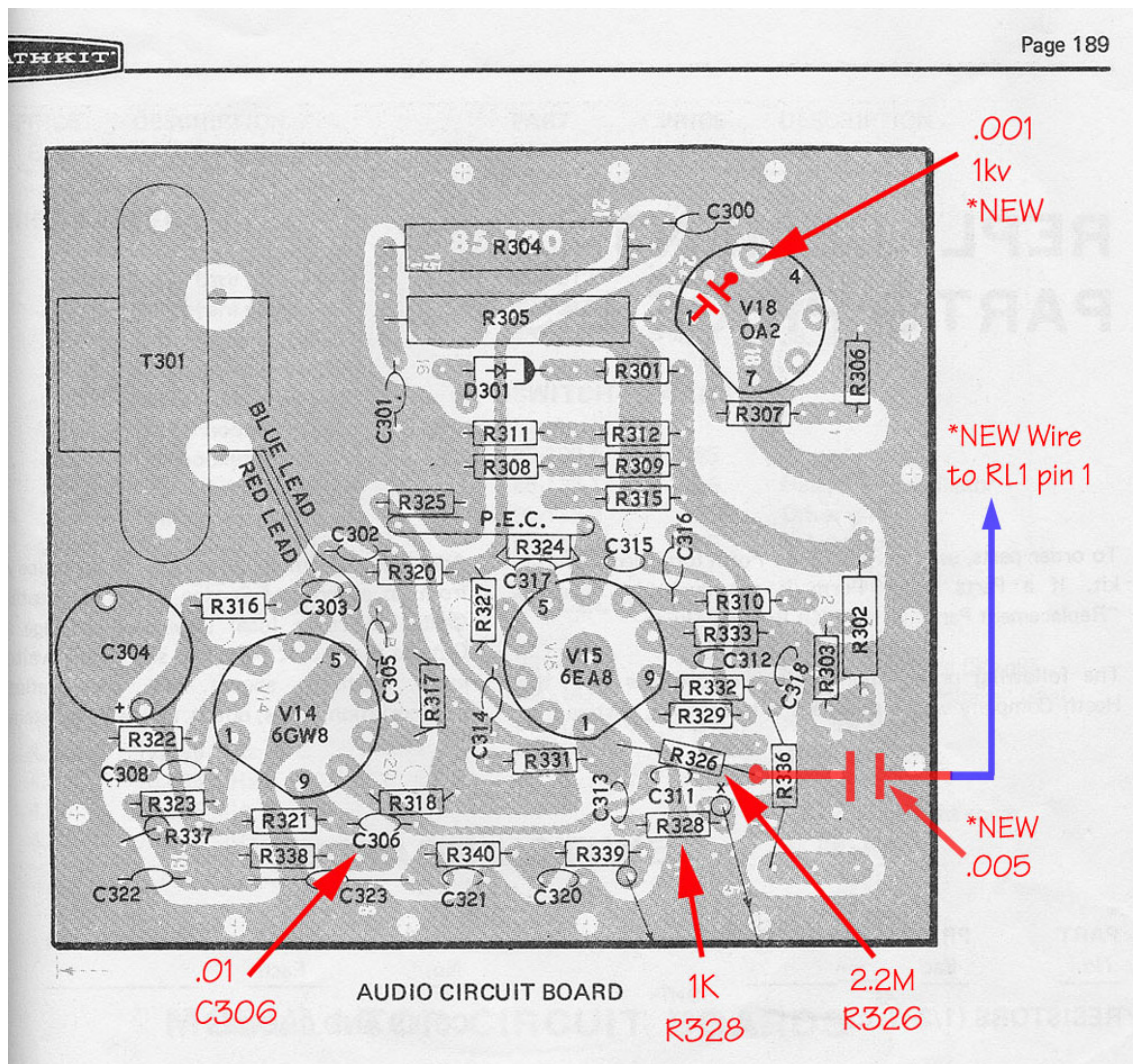
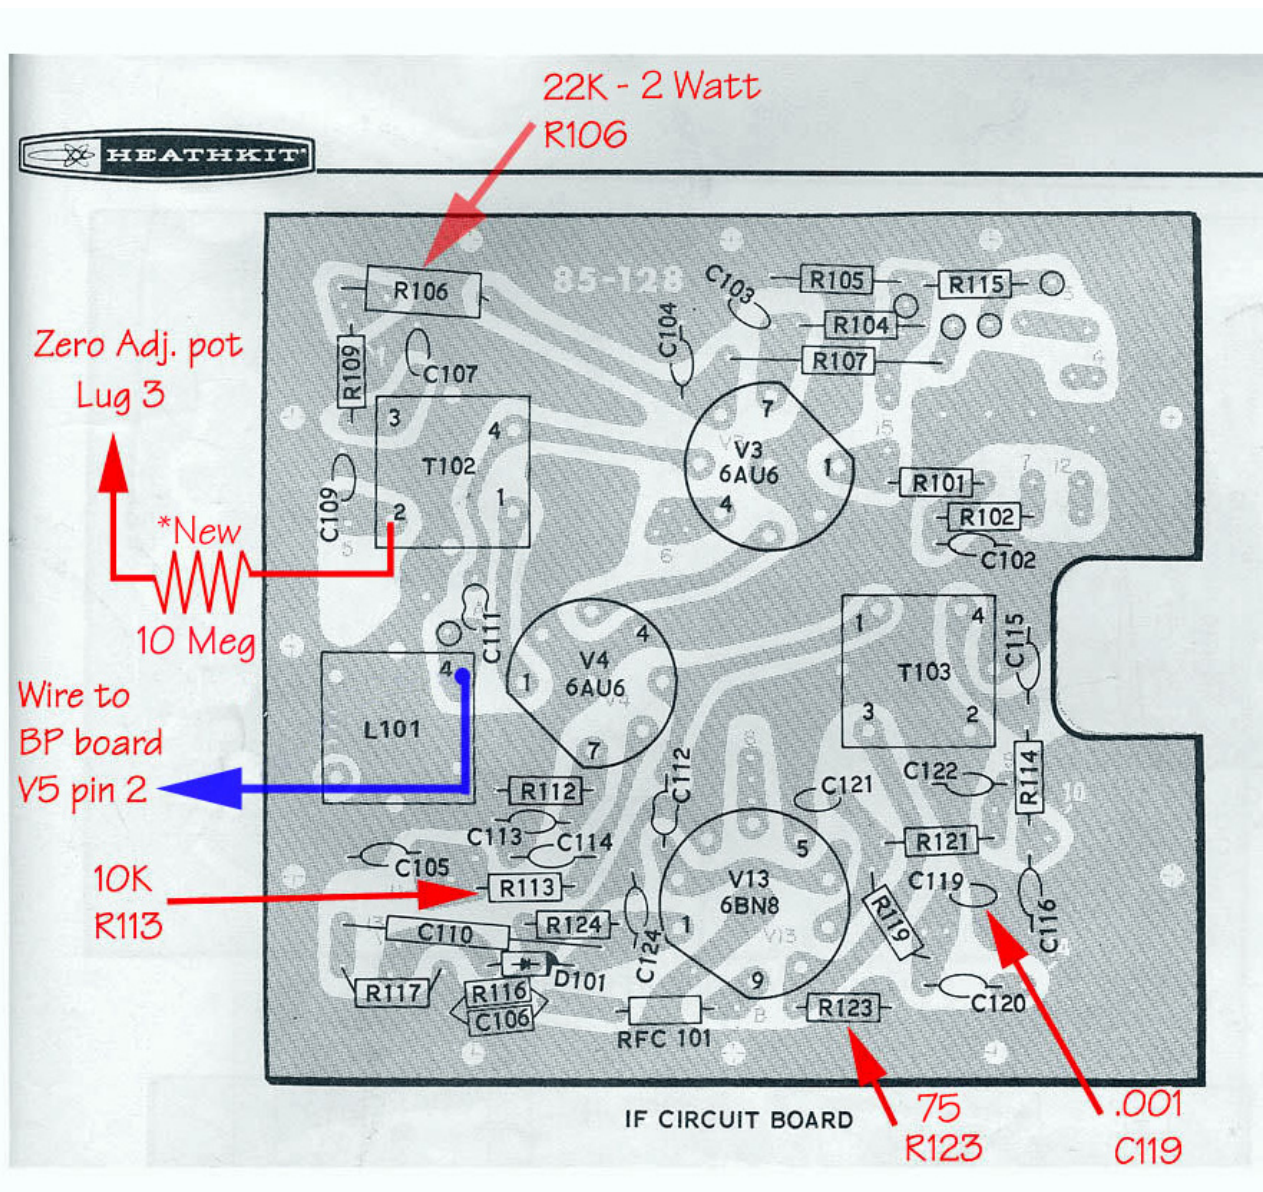
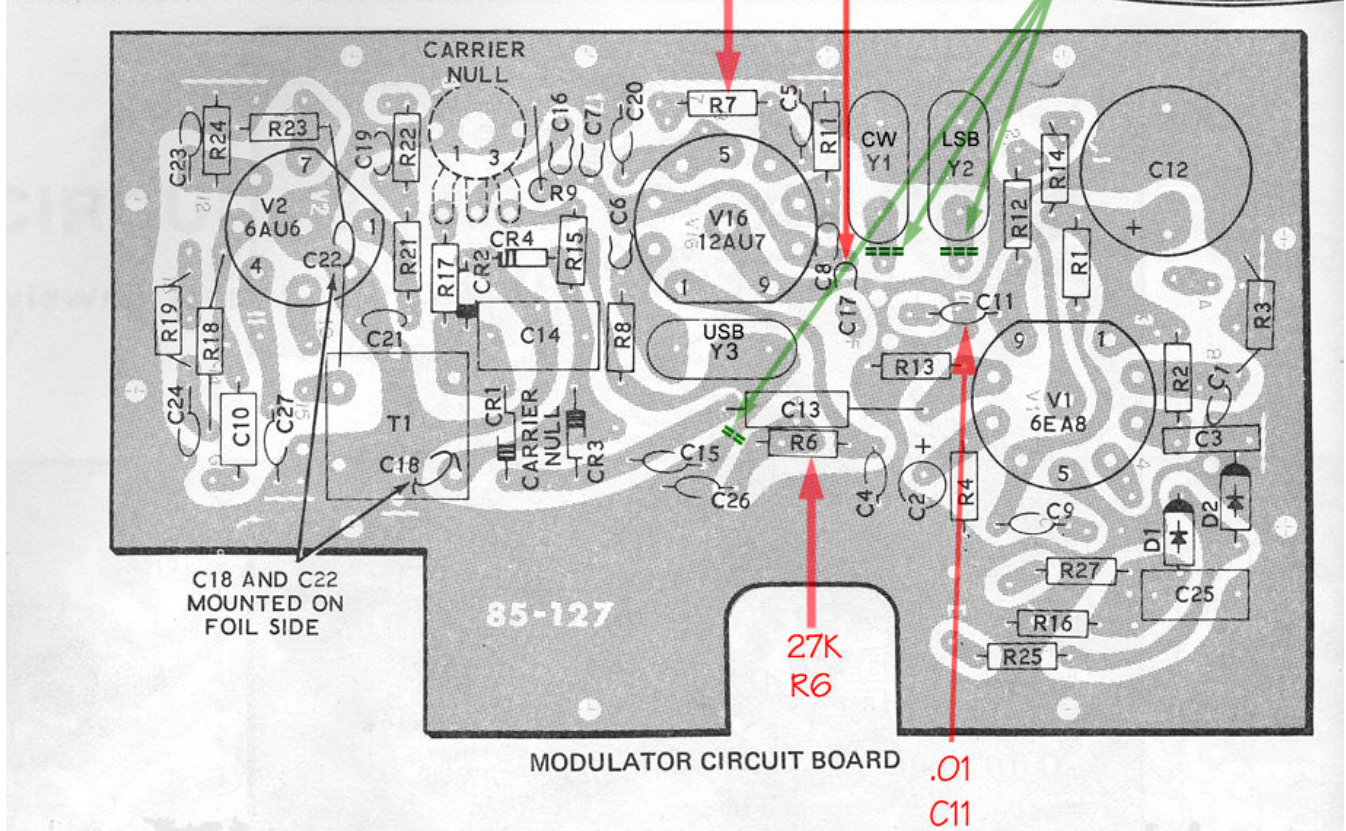

Figure 2
Figure 3
Figure 4
In the CW mode the rig's relays are energized by the CW sidetone amplifier's sidetone output driving the vox relay amplifier. The audio (sidetone) drive to the vox amp is a bit on the low side for fast relay action, and at speeds approaching 20 wpm the first dot sent is heard in the sidetone but isn't transmitted due to the slow relay response time. Correcting this is a very simple modification – simply replace the 470K $\Omega$  resistor R328 on the audio board with a 1K $\Omega$  resistor (**Figure 2**). This increases the drive to the vox amp enough to cause the relays to pull in quicker. Now the rig will key reliably at 20 wpm. The first dot tends to become shortened at 25 wpm but the rig is useable at this speed.
- 3) On the audio circuit board, replace 1M $\Omega$  resistor R326 with a 2.2M $\Omega$  resistor (**Figure 2**).
The transmitter audio quality can be improved by changing the value of coupling capacitor C11 on the modulator board from .001  $\mu\text{f}$ d to .01  $\mu\text{f}$ d (**Figure 4**). This will increase the low frequency response and give the transmit audio a little more “body”.
If 10K $\Omega$  resistor R202 is present between the I.F. circuit board (L101 pin 4) and the bandpass circuit board (V5 pin 2), remove and replace it with a piece of insulated hook up wire (**Figure 3**). This will increase drive to the 1st transmit mixer. This change is already incorporated in later model HW-101s.
During alignment check to see if, while adjusting T-102 (**Figure 3**), there are two points where the transformer can be peaked -- one spot for transmit and a slightly different setting for receive. If so, peak the transformer for maximum transmit drive instead of maximum receive gain. The receiver has an abundance of gain, however the transmitter could use a little extra. This will get rid of some of the receiver gain but WILL NOT affect receiver sensitivity.
Also change the value of the screen dropping resistor R113 in the second I.F. amplifier V4 from 1K $\Omega$  to 10K $\Omega$  (**Figure 3**). This will reduce the gain of this stage a bit and improve gain distribution.
To increase BFO drive, simply replace coupling capacitor C17 on the modulator board with a 100pf silver mica, and replace the 33K $\Omega$  resistors R6 and R7 on the modulator board with 27K $\Omega$  resistors (**Figure 4**). To reduce I.F. drive, change resistor R123 on the I.F. board from 470 $\Omega$  to 75 $\Omega$  (**Figure 3**).
Additional rolloff of the high frequency response will remove the raspy nature of the receive audio, and this is accomplished by changing the value of capacitor C119 on the I.F. board from 500pf to .001  $\mu$ fd (**Figure 3**). The low-end audio response of the audio amplifier increases slightly by replacing coupling capacitor C306 on the audio board with a .01  $\mu$ fd disk capacitor (**Figure 2**).
I like audio with a tad bit more bottom end response, so I placed my carrier points just a little closer to the filter center frequency than the Heath spec., i.e., rather than 1.6 kHz off center I went with 1.4 kHz. The frequency of the oscillator is lowered by placing a small amount of capacitance in parallel with the crystal, and the frequency is raised by putting capacitance in series with the crystal. To put a capacitor in series with the crystal simply cut one circuit board trace just before the crystal pin as indicated, and solder the capacitor across the opened trace (**Figure 4**). A 100 pf capacitor in series will move the crystal frequency up about 100 Hz, but the same frequency change in the downward direction would only require about 10 pf connected in parallel with the crystal.
S-meter zero setting instability is mainly caused by heat-related resistance changes in the R106 22K $\Omega$  1-watt resistor on the I.F. board. Replace R106 with a 22K $\Omega$  2-watt wirewound (*Figure 3*).